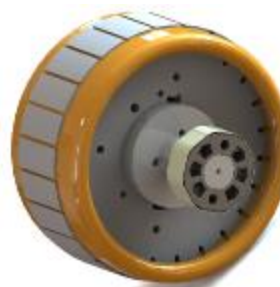

Figure 14.24: Exciter rotor and PMG Rotor
- Assemble the exciter rotor and the PMG rotor with the new bushing, according to Figure 14.24.